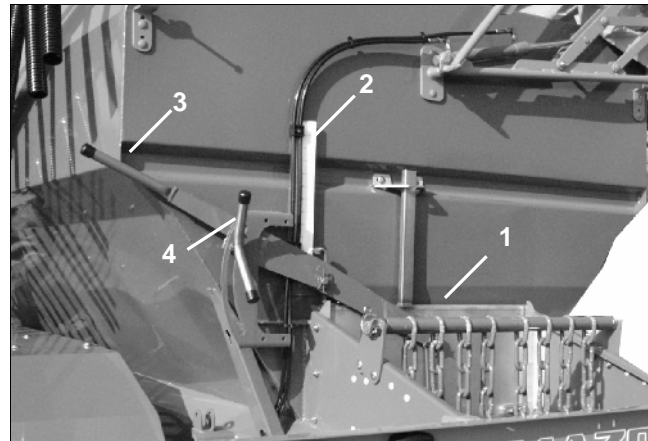

Fig. 28
- **main shutter slide** (Fig. 28/1):
The main shutter slide is adjusted by using the hand lever (Fig. 28/3).
The hand lever (Fig. 28/3) is locked by a clamping bolt (Fig. 28/4) which should be slackened before any adjustment and firmly retightened again. The position of the shutter slide (Fig. 28/1) is shown on scale (Fig. 28/2).